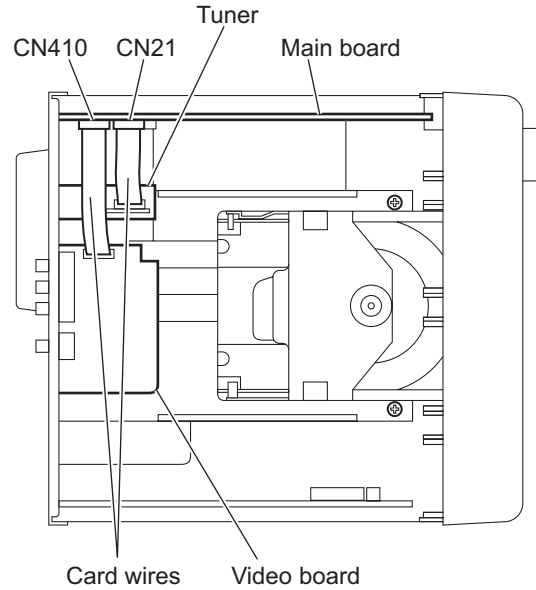

Fig.8
3.1.3 Removing the tuner (See Figs.8 and 9.)
- (1) From the top side of the main body, disconnect the card wire from the connector CN21 on the main board. (See Fig.8.)
3.1.4 Removing the video board (See Figs.8 and 9.)
- (1) From the top side of the main body, disconnect the card wire from the connector CN410 on the main board. (See Fig.8.)
Remove the tuner and video board as required. (See Figs.8 and 9.)